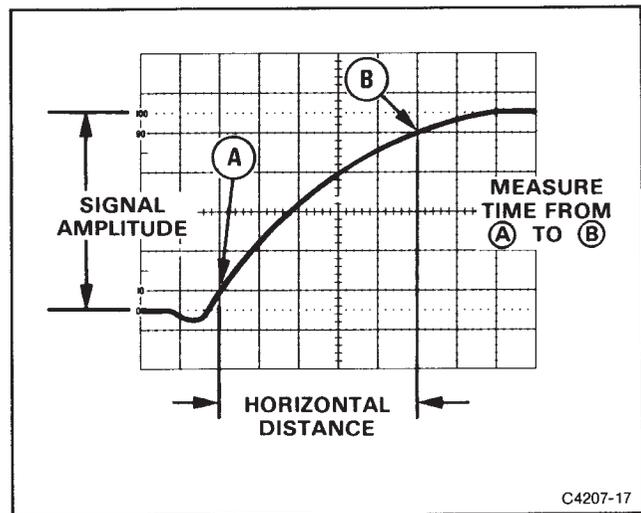

Figure 4-6. Rise time.
Rise-time measurements use the same methods as time duration, except that the measurements are made between the 10% and 90% points of the low to high transition of the selected waveform (see Figure 4-6) Fall time is measured between the 90% and 10% points of the high to low transition of the waveform.
6. Measure the horizontal distance between the 10% and 90% points (between Points A and B of Figure 4-6) and calculate the time duration using the following formula: